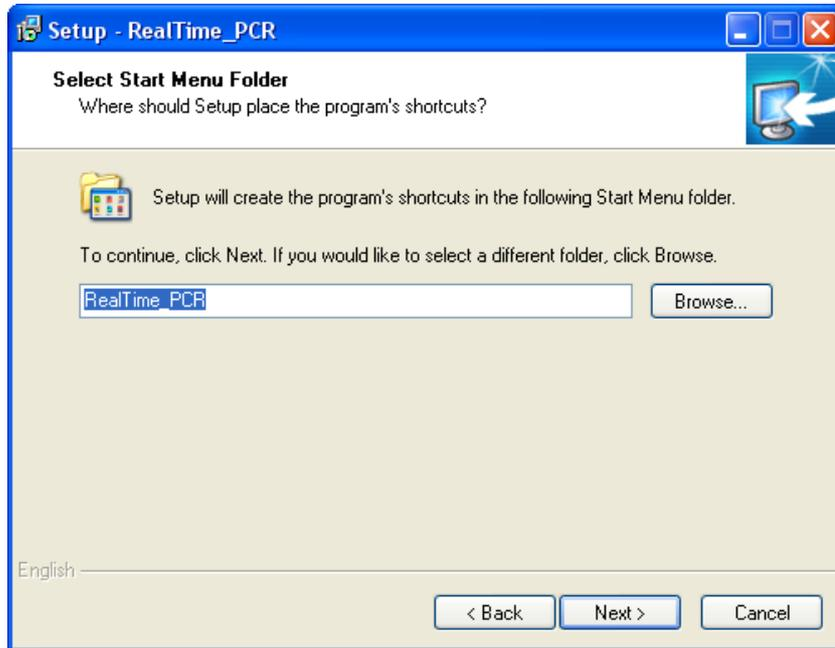

Fig. 17. Selecting of folder to create shortcuts
- Select the name of the folder, where **RealTime_PCR** shortcuts will be created, and click . (Fig. 17).